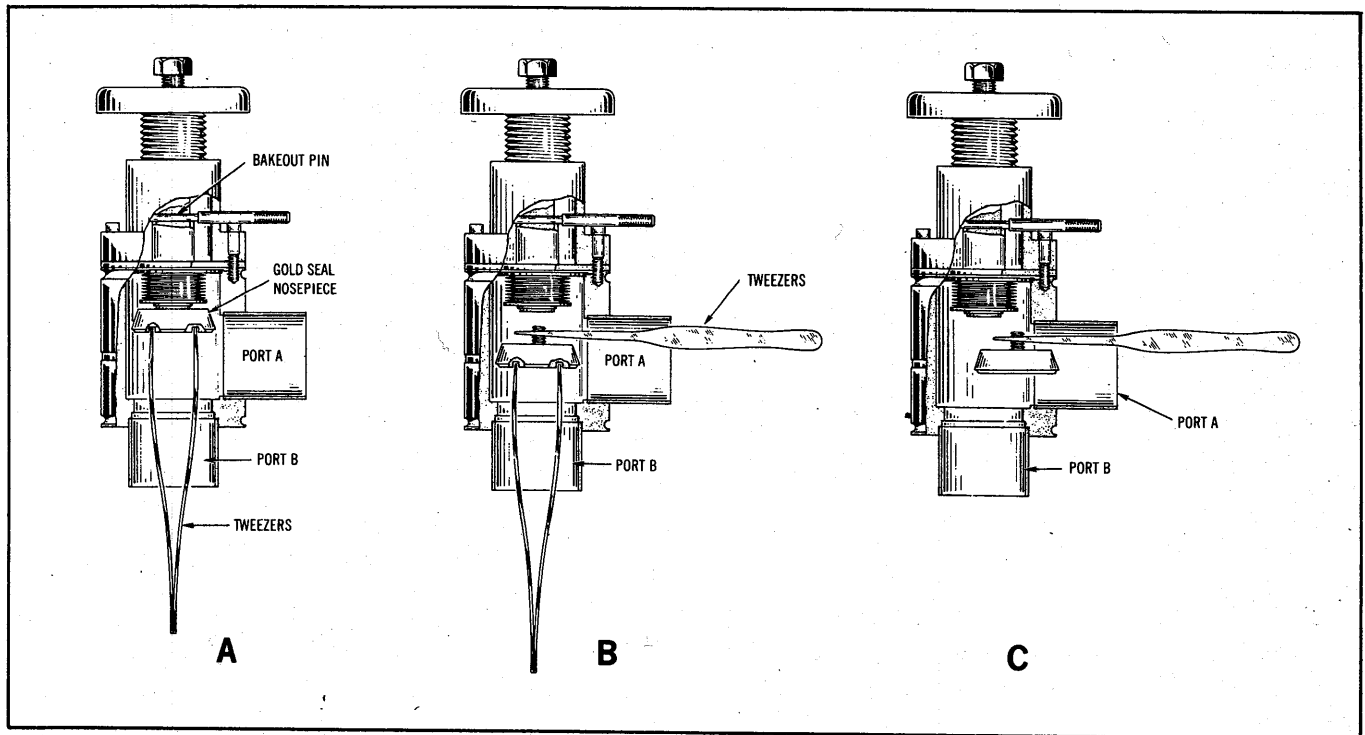

Figure 2. Removal and Installation of Gold Seal Nosepiece
## 6.2 INSTALLING NEW GOLD SEAL NOSEPIECE (See Fig. 2)
- 6.2.3.3 Insert one pair of tweezers into Port B and engage the tweezer prongs into the two indentations in the face of the Nosepiece as shown in Step A of Fig. 2. Do not damage the Nosepiece knife edge.
- 6.2.3.5 While holding the Nosepiece securely with the first pair of tweezers, carefully insert the second pair of tweezers through Port A and clamp them around the threaded portion at the rear of the nosepiece as shown in Step B of Fig. 2.
- 6.2.3.7 Look into Port A and position the Nosepiece so that its maximum diameter will coincide with the inside diameter of the tubulation, and remove the Nosepiece through Port A as shown in Step C of Fig. 2. Note that the maximum diameter of the Nosepiece must be extracted on a diameter of the tubulation so that the valve is not damaged.
- 6.2.4.5 Line up the maximum diameter of the Nosepiece with the diameter of the Port A tubulation. Carefully insert the new Nosepiece into Port A as shown in Step C of Fig. 2, and position the threaded portion in line with the threads in the Nosepiece Shaft.
- 6.2.4.6 Insert the second pair of tweezers through Port B and engage the tweezer prongs into the two indentations in the face of the Nosepiece as shown in Step B of Fig. 2.
- 6.2.4.8 Push the threaded portion of the Nosepiece into the threads of the Nosepiece Shaft as shown in Step A of Fig. 2. Turn the Nosepiece clockwise until the threads engage. Continue to rotate the Nosepiece with the tweezers until it is finger tight, and then remove the tweezers.